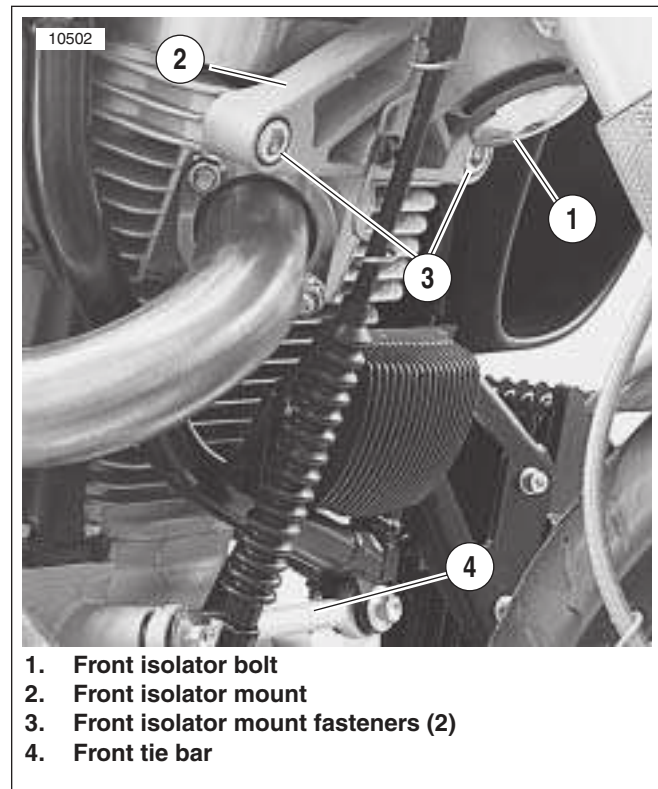

Figure 3-8. Front Isolator and Tie Bar Assemblies
2. See Figure 3-8. Insert front isolator bolt (1) through front isolator (2) and loosely thread into frame. Do not tighten at this point.
3. See Figure 3-8. Install isolator mounting fasteners (3) and tighten to 49-51 ft-lbs (66.4-69.1 Nm).
- b. See Figure 3-8. Install front tie-bar (4) to "V" bracket and tighten to 25-27 ft-lbs (33.9-36.6 Nm).